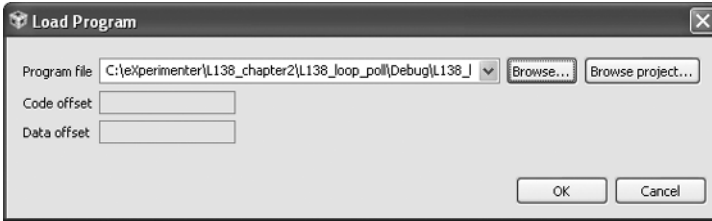

Figure 1.13 Browse to select program L138_loop_poll.out.
- (14) Select *Target > Load program* and *Browse* to find the executable file L138_loop_poll.out in folder c:\eXperimenter\L138_chapter2\L138_loop_poll\Debug, as shown in Figure 1.13.